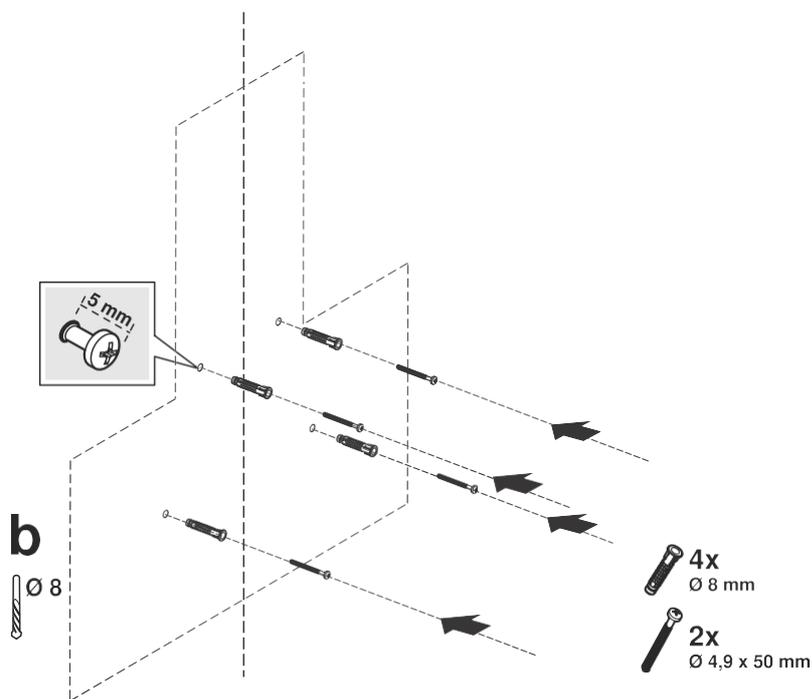

Fig. 11
4. Drill 8mm holes in the points you have just marked then insert wall plugs in the holes. (Fig. 11)